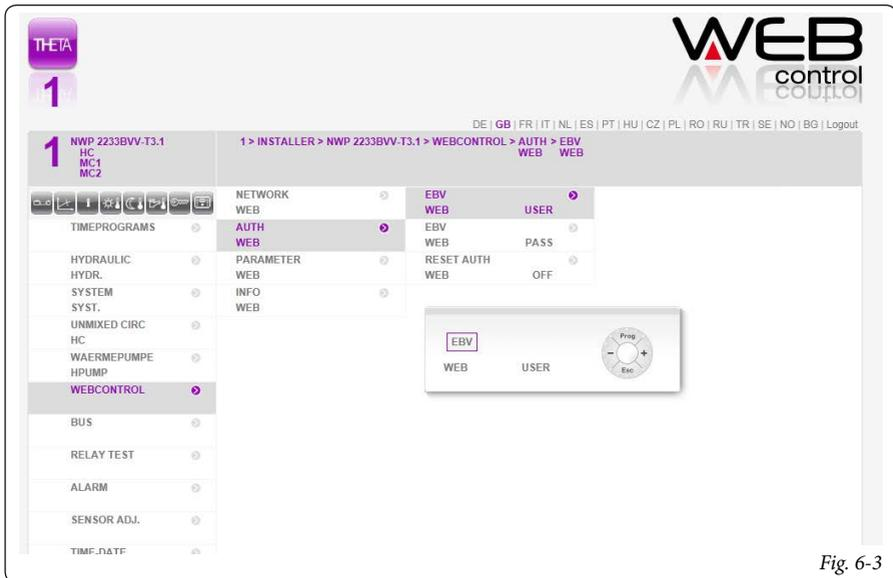

Fig. 6-3
- 4) A window opens with field to be filled in. The current item is circled and flashes (fig. 6-3).